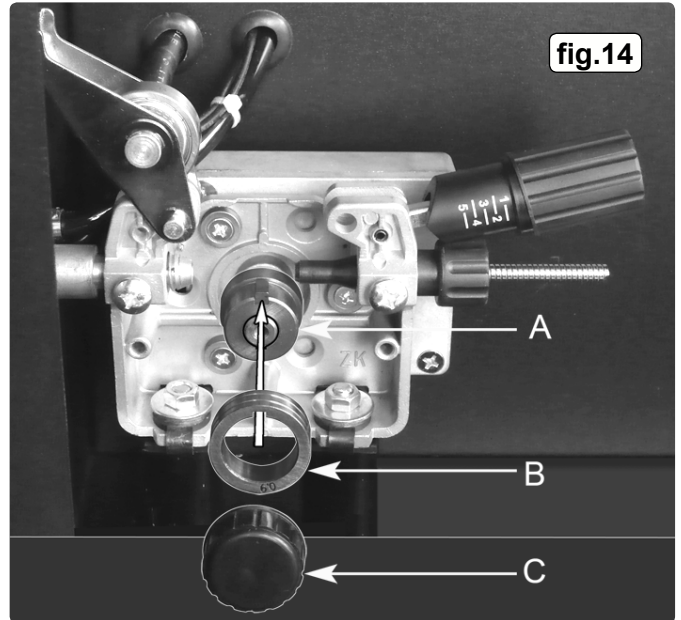

fig.14
- 3.12 **TURNING/CHANGING THE DRIVE ROLLER.** (See fig.14) Ensure that the wire diameter used, is matched by the correct groove size in the drive wheel and the correct tip size on the torch as well as the correct torch liner. Failure to do this could cause the wire to slip and/or bind.
- 3.12.2 Referring to fig.14, loosen and unscrew the black feed roller retaining knob (C) and put to one side.